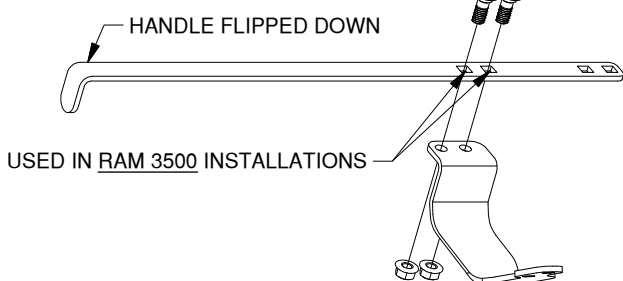

Figure C2: Latch handle assembly configurations.
- 2. Assemble the handle.** Locate the latch pin handle and the latch pin handle bracket. The handle has two assembly configurations. The holes at the end of the handle are for installation in RAM 2500 trucks. In this configuration the handle will be flipped up. The holes that are about 4 inches from the end are for RAM 3500 truck installations. In this configuration the handle will be flipped down. Assemble the pieces of the handle with two 3/8" carriage bolts and 3/8" locking flange nuts, making sure that the edge of the handle is in line with the edge of the bracket, see Figure C2. Torque the nuts to 30 ft. lbs.